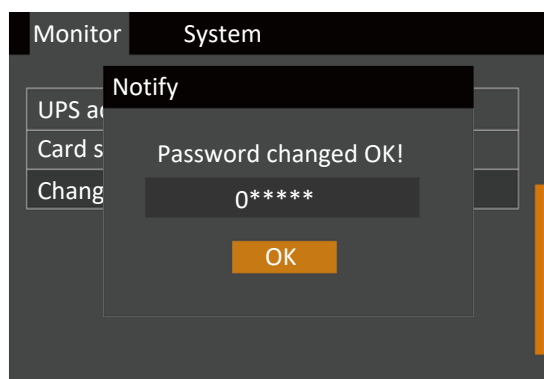

Figure 5-27 Password Changed Successfully
6. After confirming the new password, press the  key; at this point system prompt a dialog box indicating that the password has been changed successfully, see Figure 5-27.